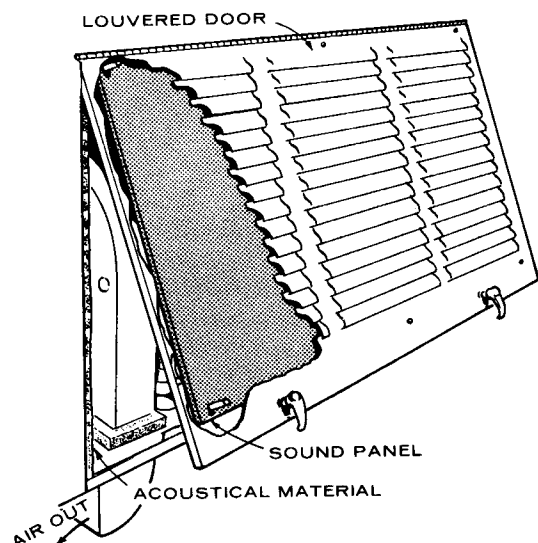

FIGURE 5. BAFFLE CONCEPT COMPARTMENT
4. To prevent line of sight noise indication, a sound panel (baffle) may be added behind lowered air inlet. The panel must be spaced to allow for minimum free air inlet of 100 square inches. See Figure 5.
The baffle concept is accomplished by mounting a panel on the inside of a louvered service door (Figure 5). The panel must be spaced to allow for free inlet airflow, yet not allow line-of-sight to the generator set. Often this compartment does not lend itself to effective noise reduction because the louvers in the door extend beyond the panel's edges.
reduced by adding a duct (Figures 5 through 8) to direct the airflow under the vehicle. For most effective acoustical treatment, line the duct with acoustical material which is resistant to oil or gas absorption, and is fire resistant. Ducting or acoustical treatment material must not restrict discharge airflow from the set.